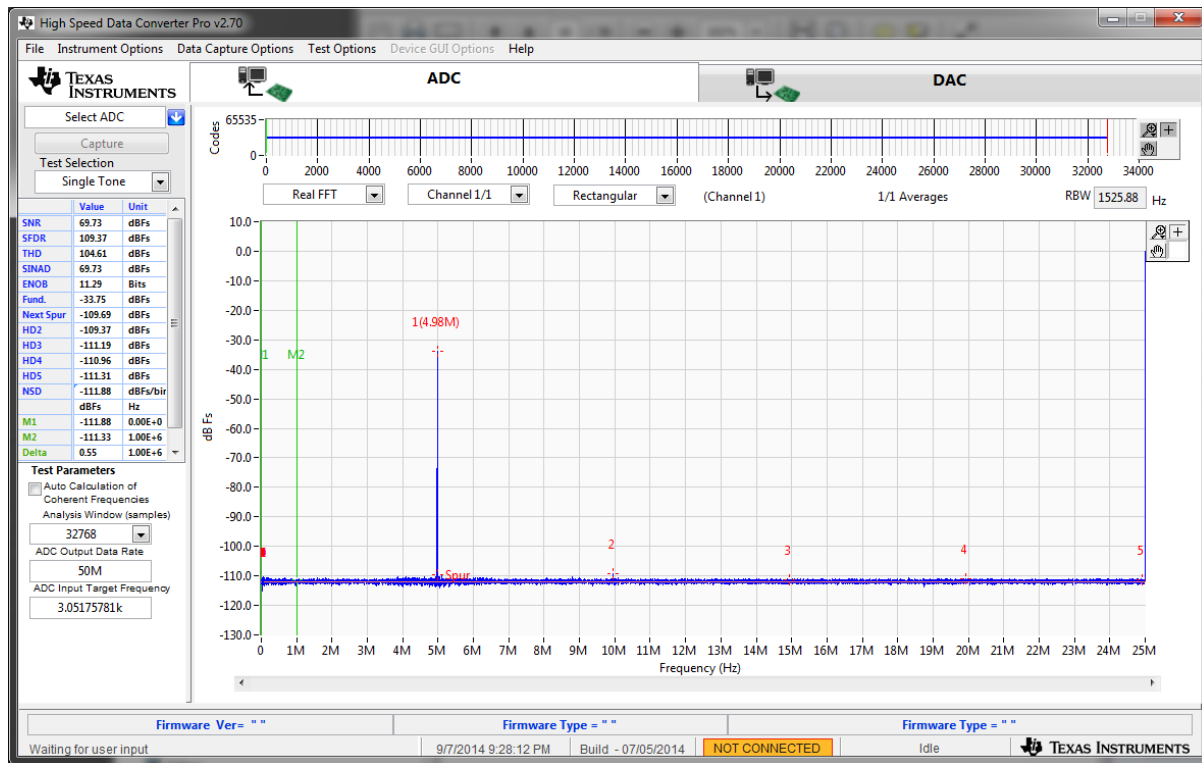

Figure 4.3 ADC43J22 Single Tone FFT Capture Results for Channel 3
- Figure 4.3 shows the SNR for the captured signal at 69.73 dBFs